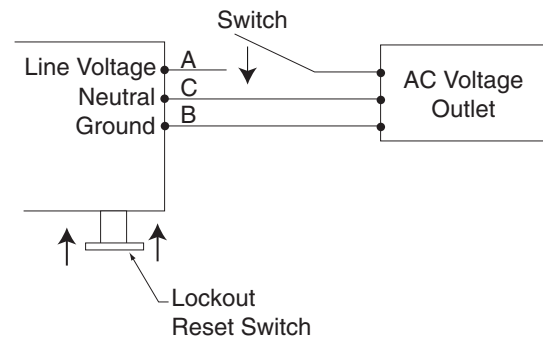

Figure 7.
Testing of the TVS Sectionalizer is done in conjunction with the TVS Control (TVSC). A test circuit switch wired to the power cable (Figure 7) is necessary for these tests.
5. Connect a switch to the voltage cable as shown in the test circuit diagram in Figure 7, and connect cable to an ac outlet.
See Figure 7.